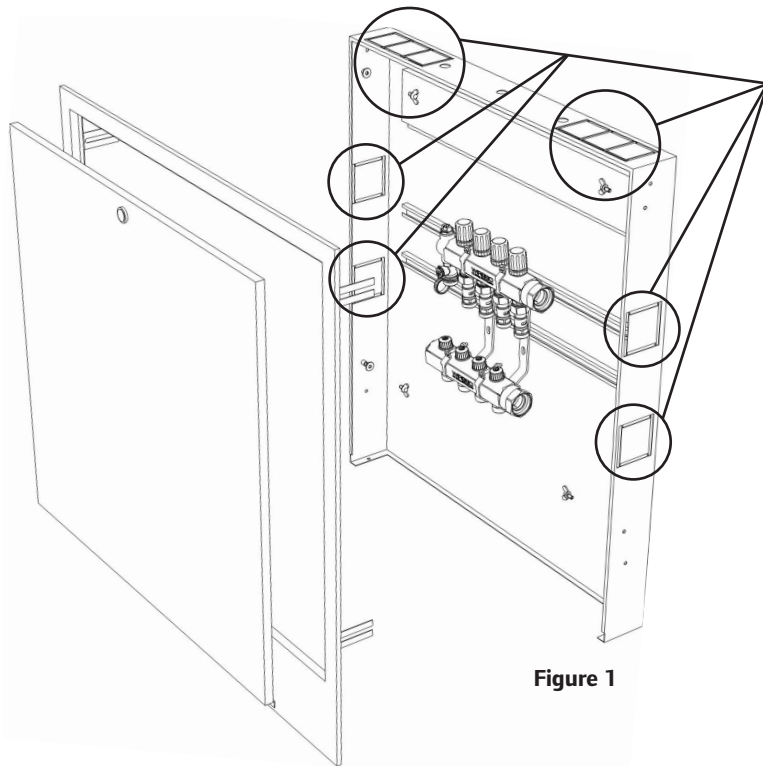

Figure 1
1. Remove the knockouts as applicable. (See **Figure 1**.)